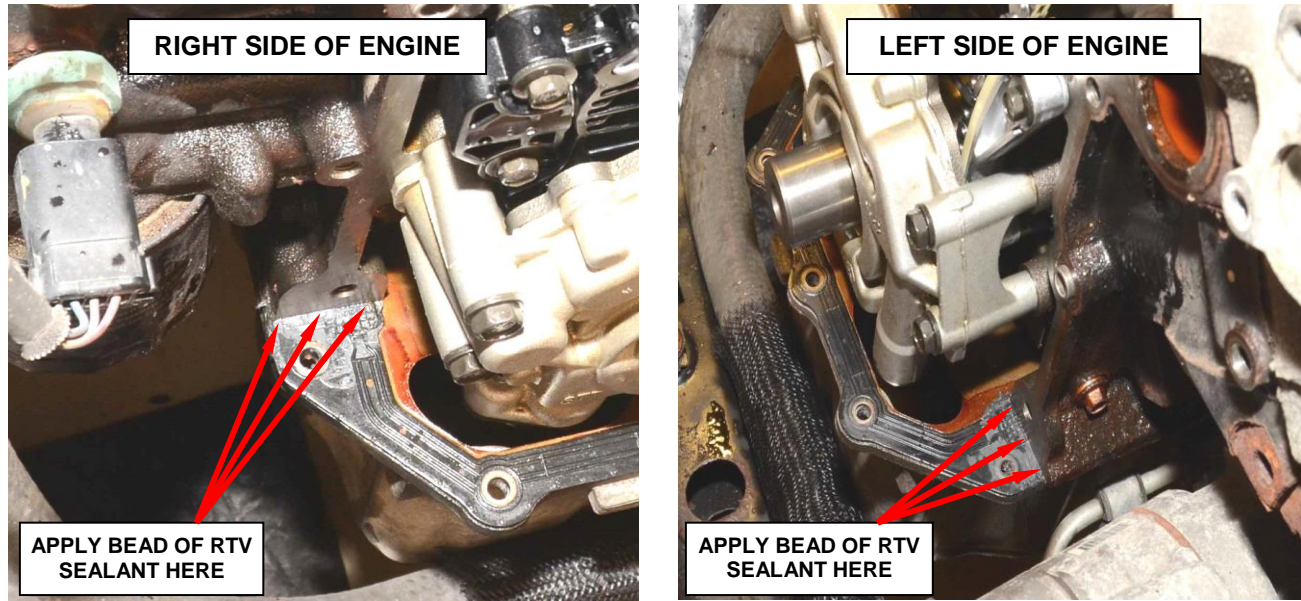

Figure 16 – Apply RTV Sealant
72. Apply a small bead of RTV sealant to the right and left edges of the engine block where the engine block meets the oil pan (Figure 16).